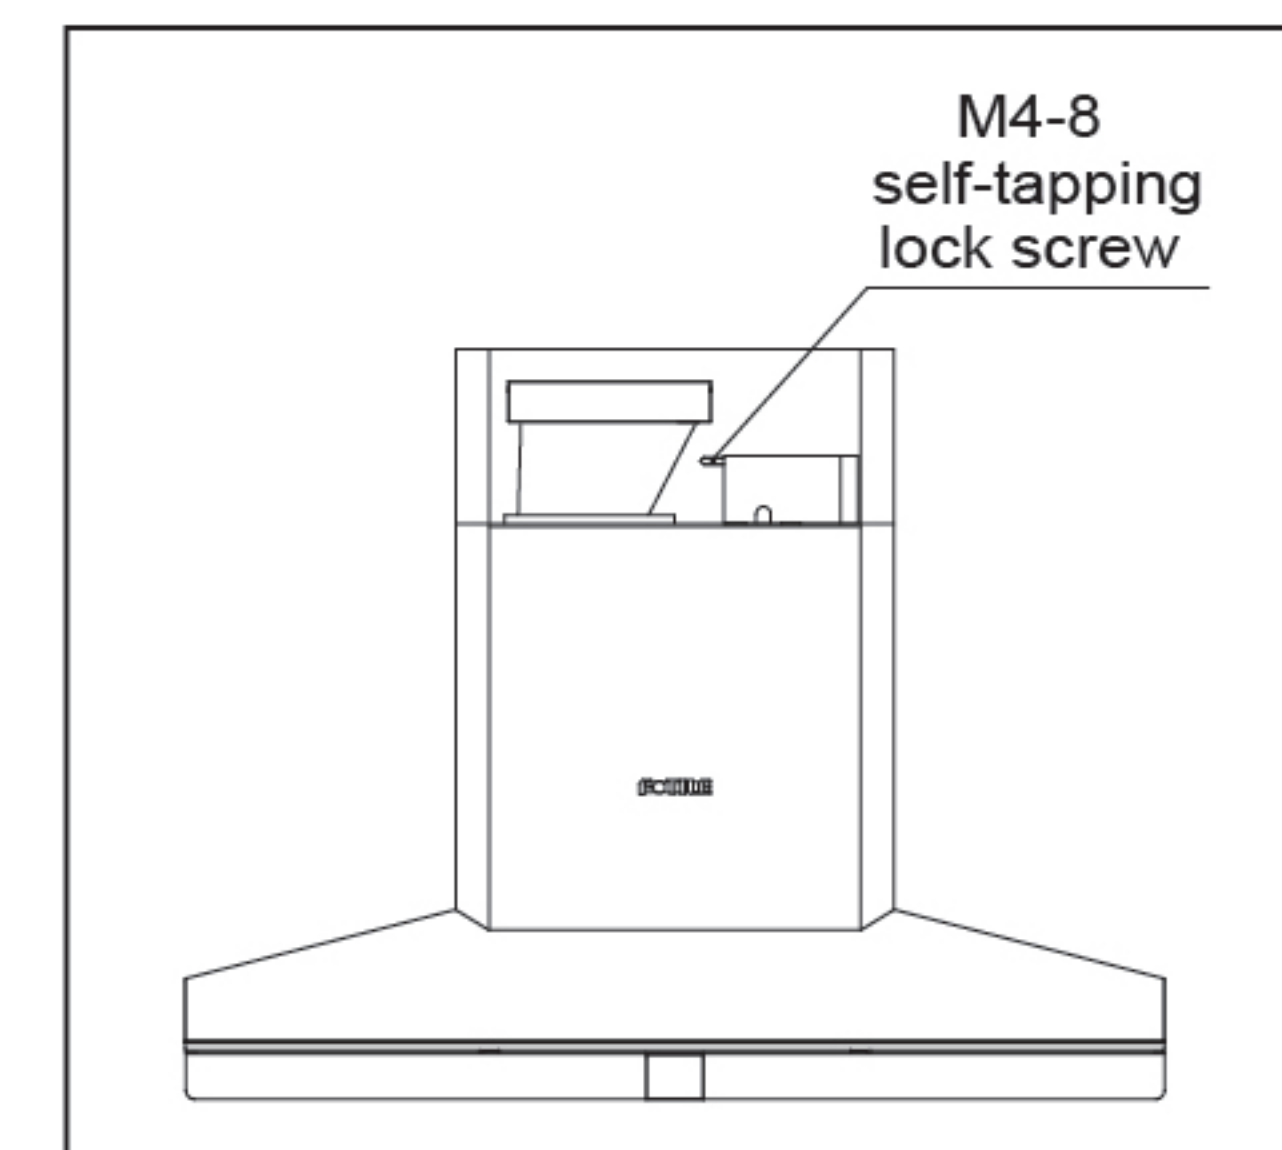

Figure 1
- The fan frame shall be connected and fixed with the hook with M4x8 self-tapping lock screw, as shown in Figure 1.